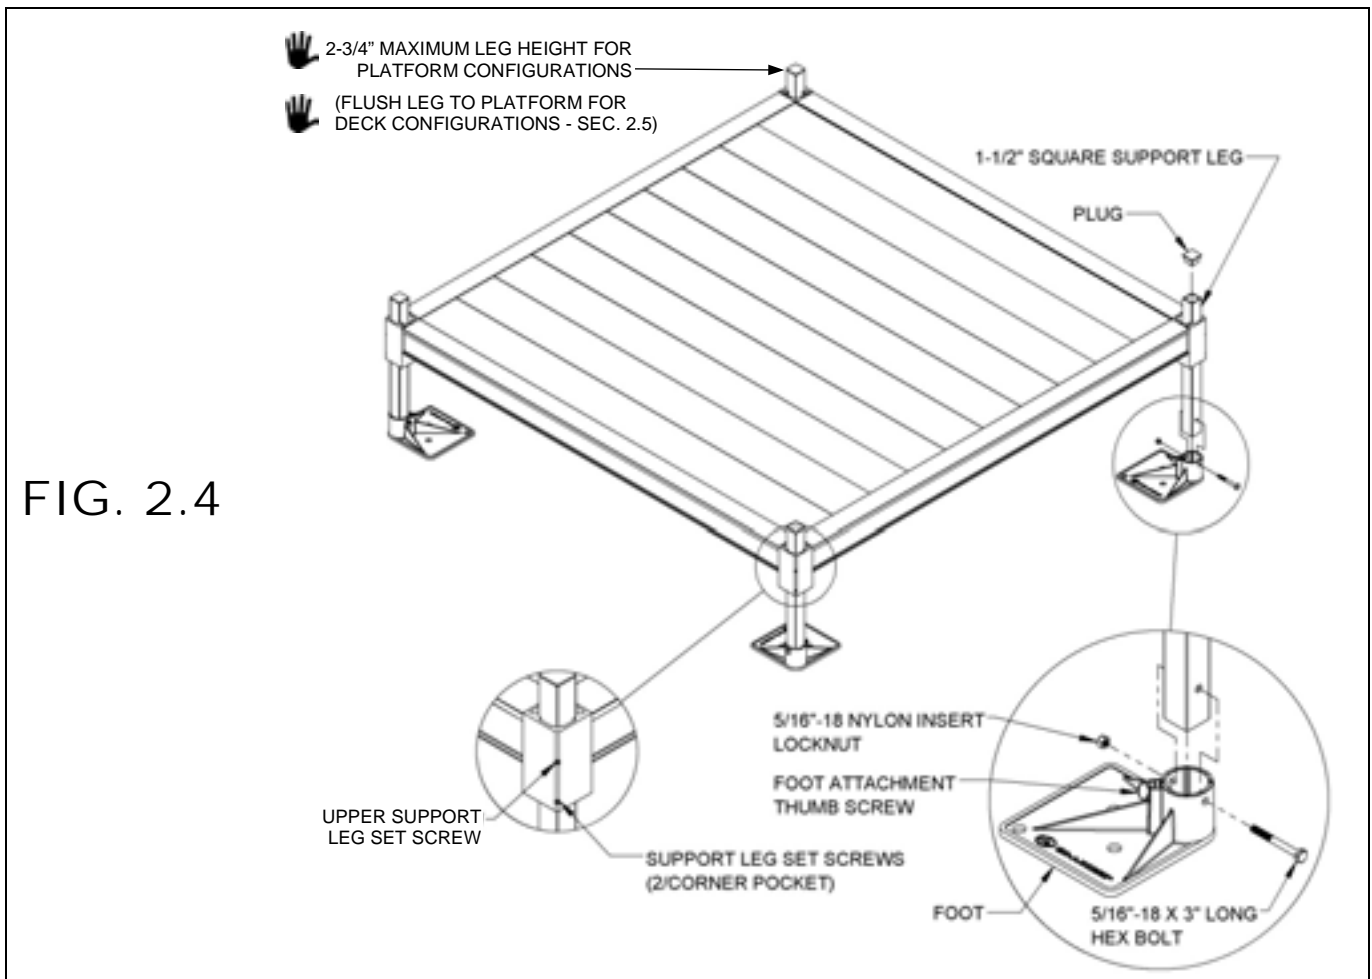

FIG. 2.4
- 2.2.2. Loosen all set screws in the platform corner pocket and the foot's thumb screw, if needed, to fully engage the support leg in the foot (FIG. 2.4). Repeat for all support legs.
- 2.2.3. Tip the platform on its side, then slide the support legs into the four platform corner pockets. Adjust the support legs to the approximate platform height needed (FIG. 2.4).
- 2.2.4. Use 3/16" Allen wrench to tighten the upper (FIG. 2.4) platform corner pocket set screws just enough to hold the support legs in place but do not over tighten (second set screw will be tightened after final height adjustments).
- 2.2.6. Lift each corner of the platform and install a foot on each support leg, oriented so that the foot extends under the platform (FIG. 2.4).
- 2.2.7. Make sure the feet are fully engaged on the legs and tighten the thumb screw on each foot securely (FIG. 2.4).
- 2.2.8. Use hole in the foot as a template to drill an 11/32" or 3/8" hole through each support leg (FIG. 2.4).
- 2.2.12. Insert a plug and fully seat into the top of each support leg (FIG. 2.4). Use a rubber mallet or similar tool to fully seat as needed. If necessary, use construction adhesive to bond the plug in place.